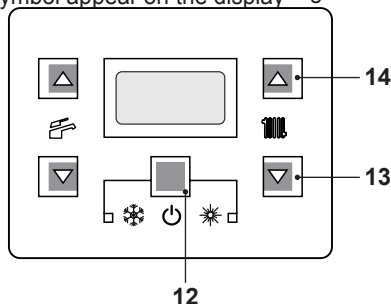

Fig. 2.5
- Press the key 12 for 2 seconds until the  symbol appear on the display Fig. 2.5.
The output temperature of C.H. water can be adjusted by pressing keys 13 (reduce) and 14 (increase) (Fig. 2.5) from a minimum of about 25°C to a maximum of about 85°C. Press one of the two keys once to display the "set" value. Press again to access the modification.
However, if the ambient temperature is not comfortable, the flow temperature of the heating system can be adjusted by $\pm 15^\circ\text{C}$ by pressing on keys 13 (reduce) and 14 (increase) (Fig. 2.5).